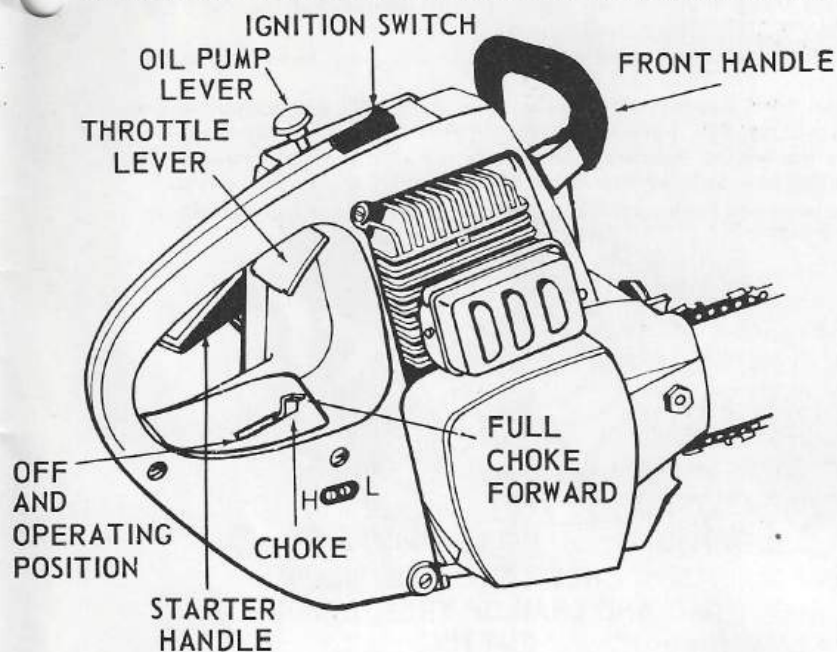

FIG. 5
1. Breaking in a new engine and chain are very important. Run your engine for its first few minutes at 1/3 throttle. Increase speed to about 1/2 throttle and run for a few minutes longer. During this period, press oil pump lever, refer to Fig. 5, often to thoroughly lubricate chain and guide bar groove.